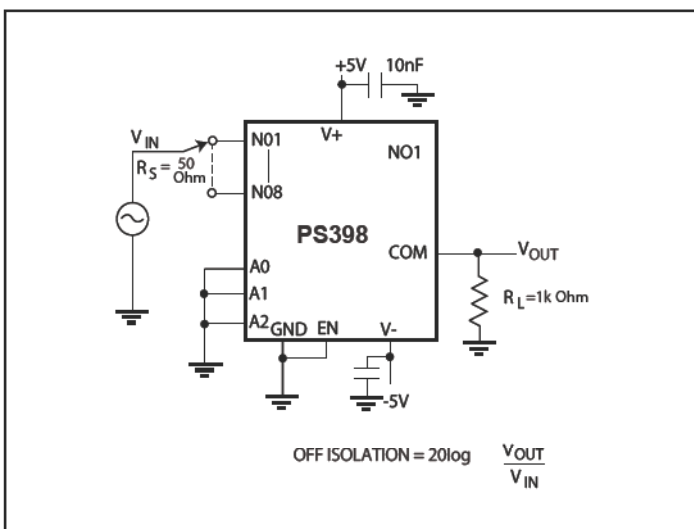

Figure 5. Off Isolation
7. Off Isolation = $20 \log_{10} V_{COM} / V_{NO}$. See Figure 5.
- Off Isolation = $20 \log_{10} \frac{V_{COM}}{V_{NO}}$. See Figure 5.